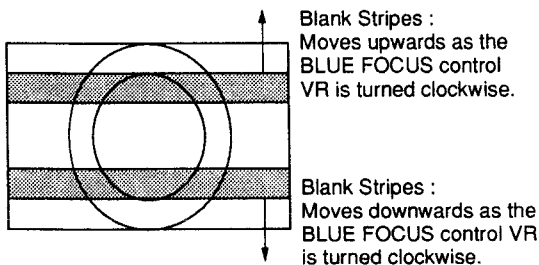

Fig. 4
- 6) Turn the VR clockwise slowly and the horizontal black stripes appear and Blank Stripes move vertically. (Fig. 4)